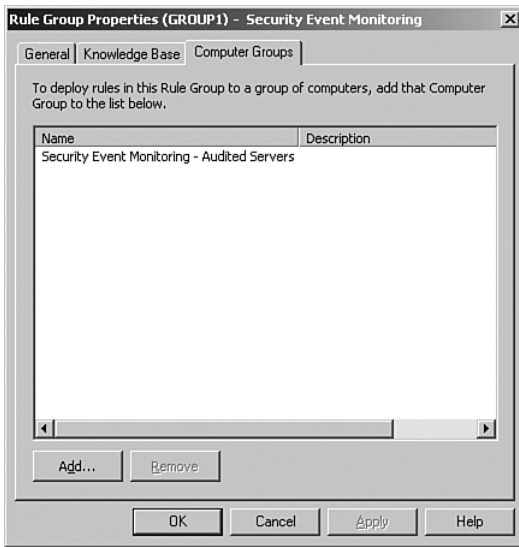

FIGURE 20.13 Rule group—computer group link.
2. On the Computer Groups tab add the Security Event Monitoring – Audited Servers group, as shown in Figure 20.13. Click OK.